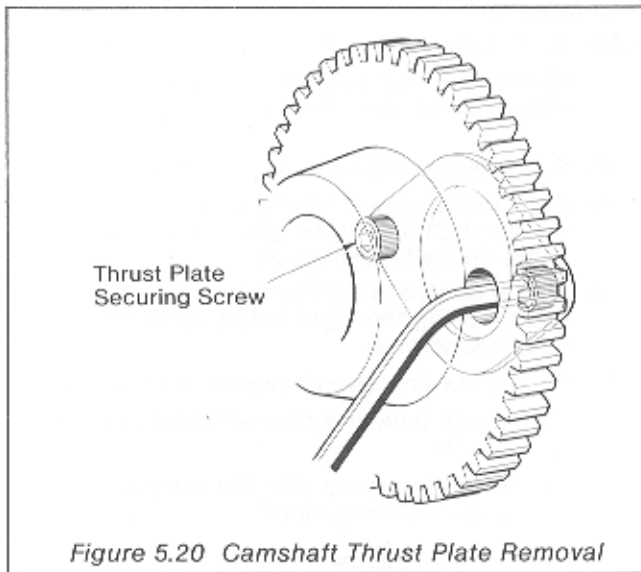

Figure 5.20 Camshaft Thrust Plate Removal
- (6) Remove the fuel feed pump, gasket and operating push rod, if fitted.
- (7) Stand the engine on its flywheel end and remove the sump.
- (8) Remove the camshaft thrust plate retaining screws, these are accessible through holes in the gearwheel as shown in Figure 5.20. (see note).